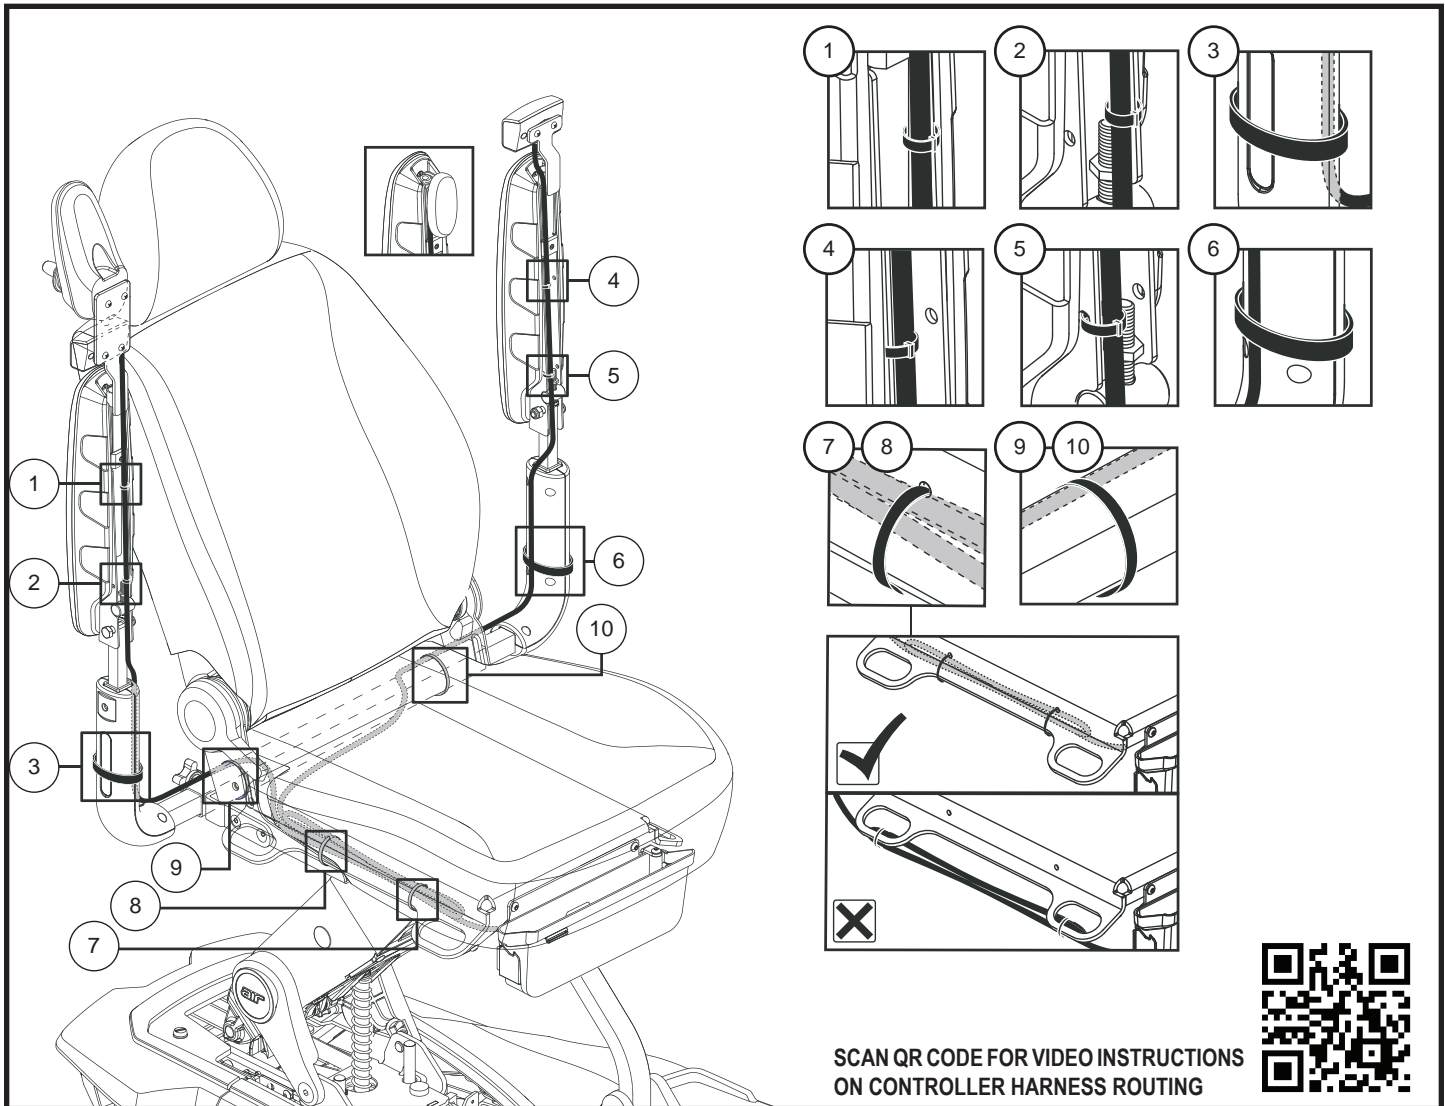

Figure 11. Controller Harness Routing
17. Secure the harnesses on the armrest with the supplied wire-ties as shown in **figure 11**.
19. Secure the harnesses along the armrest receiver and seat plate with supplied wire-ties as shown in **figure 11**.
WARNING! Ensure that all harnesses are properly routed as shown in figure 11. Improper routing can cause damage to the light switch, controller, or other electrical components.
1. For locations 1 through 10, tighten the wire-ties into place according to the proper harness routing shown in figure 11.
NOTE: For video instructions on routing the controller harness, visit <https://youtu.be/KHdTQK9KXn0> or scan the QR code shown in figure 11 with your smartphone device.
9. Route the controller harness along the seat frame and secure with wire ties. **See figure 11.**